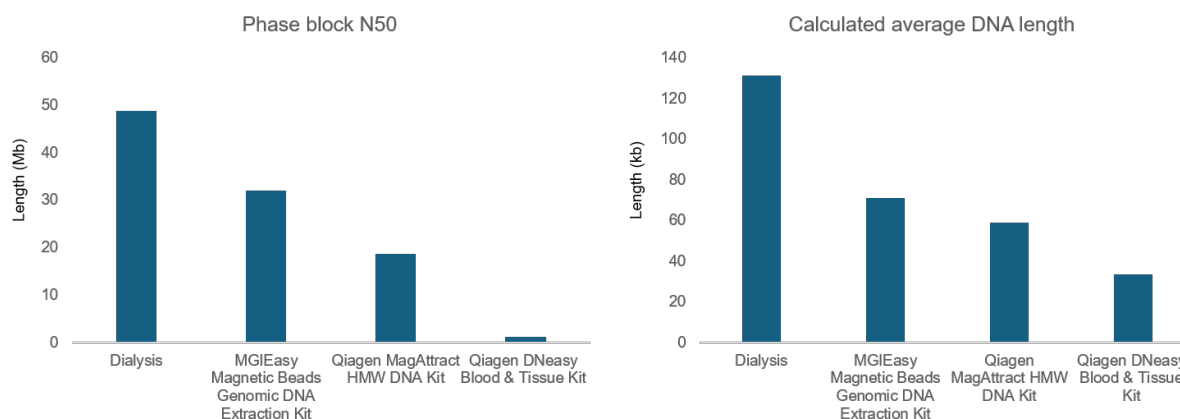

Figure 1 DNA length and phasing performance using different isolation methods.
- The following criteria are recommended for best performance after sample extraction: sample concentration should be more than 1 ng/ μ L, the A260/280 value of the DNA sample should be 1.6 to 2.2, and the mean length of the initial DNA fragments should be longer than 20 Kb. DNA fragments with longer length will produce better results (see Figure 1 for expected performance based on different DNA fragment).